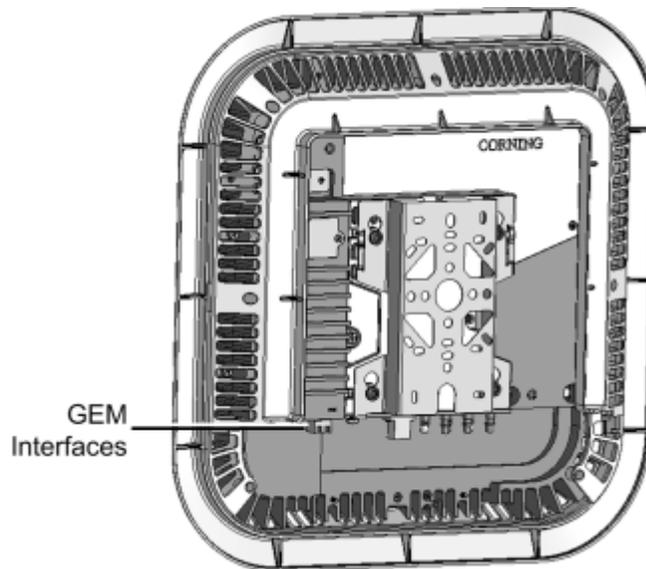

Figure 6-21. RAU and GEM with Assembled Cover
3. Replace the cover except for the front panel so that the interface ports are accessible, as shown in Figure 6-21.